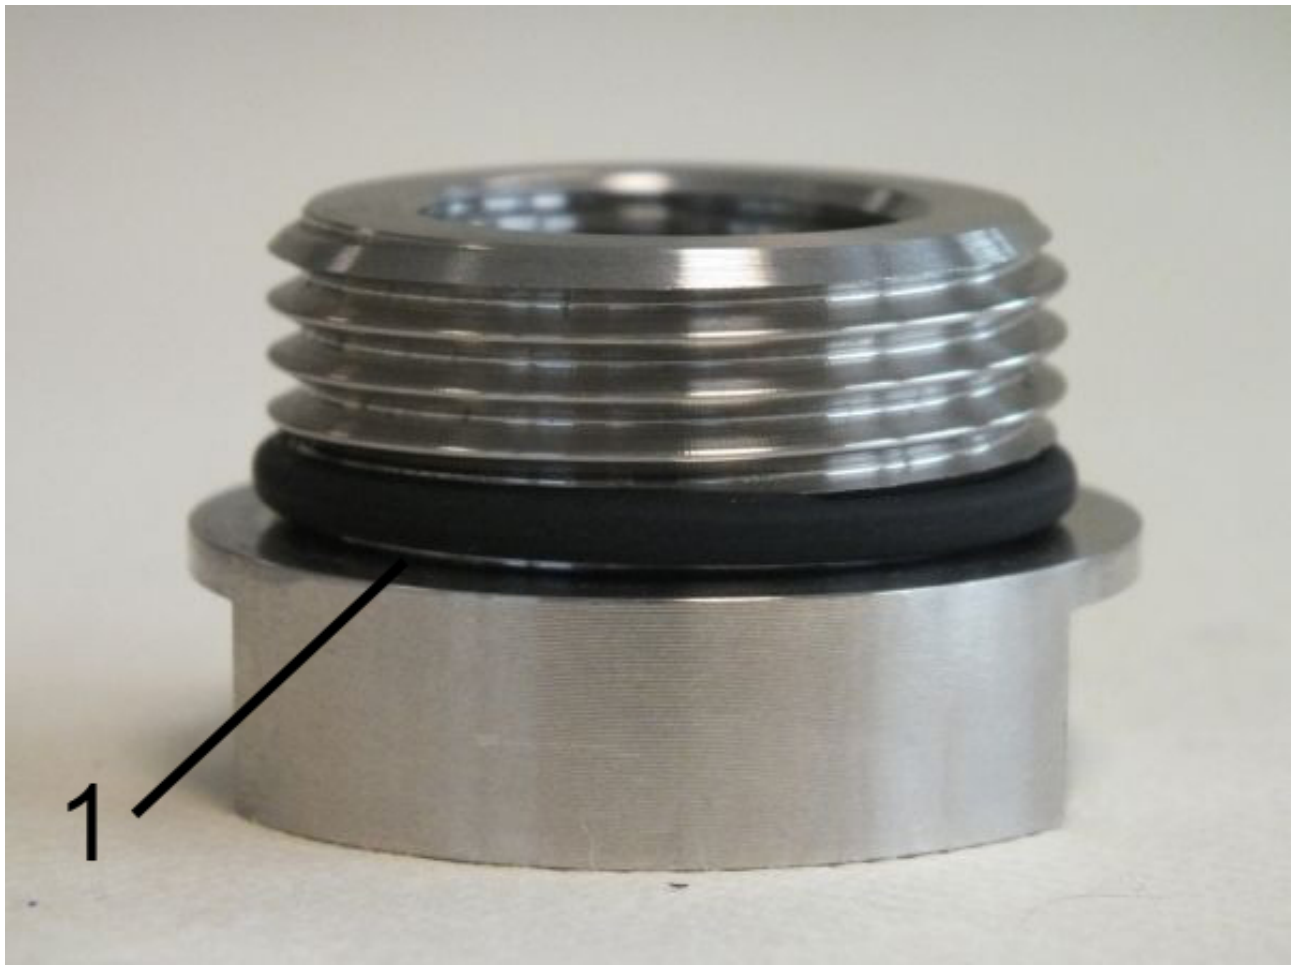

Fig. 49: Properly positioned O-ring
- 2.** → Position the O-ring properly on the process connection (*Fig. 49/1*)